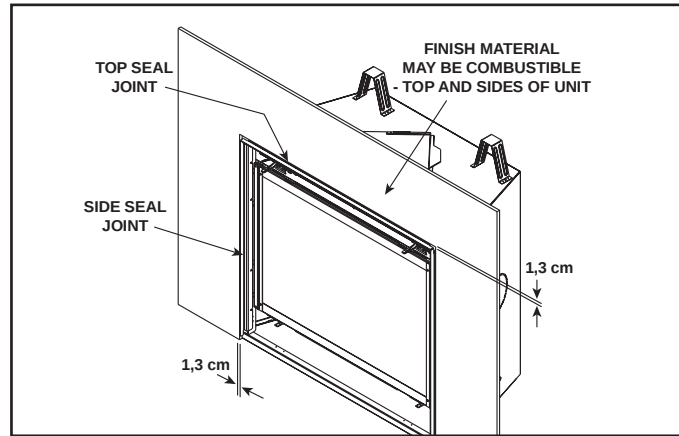

Figure 31. Sealant Material
**IF JOINTS BETWEEN THE FINISHED WALLS AND THE FIREPLACE SURROUND (TOP AND SIDES) ARE SEALED, A 150°C. MINIMUM SEALANT MATERIAL MUST BE USED. THESE JOINTS ARE NOT REQUIRED TO BE SEALED. ONLY NONCOMBUSTIBLE MATERIAL (USING 150°C. MINIMUM ADHESIVE, IF NEEDED) CAN BE APPLIED AS FACING TO THE FIREPLACE SURROUND. SEE FIGURE 31.**